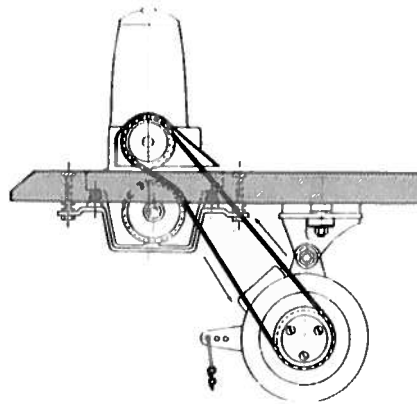

fig. 1
3. Mount and line up driving belt square to machine and motor pulleys as shown in fig. 1.